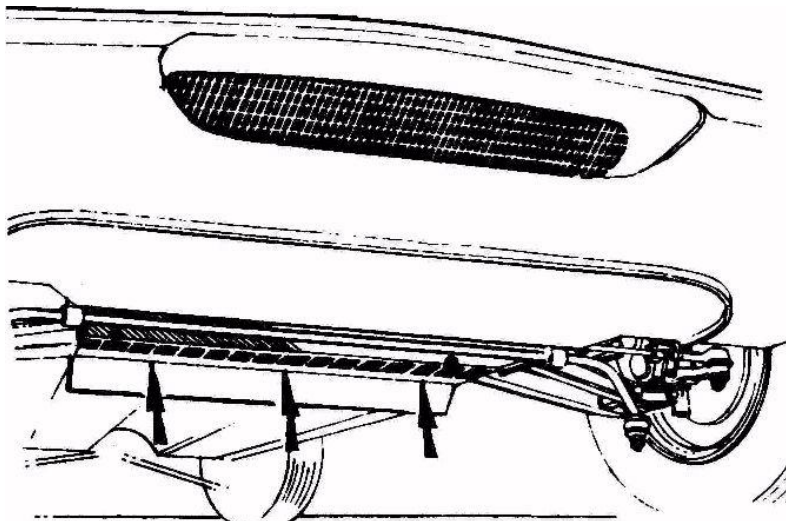

Fig. 6 - Chassis Stand Position.
Raise the front of the vehicle after applying the handbrake and chocking the rear wheels front and rear. Support the front of the vehicle by placing a trestle or stands beneath the chassis cross member, immediately behind the chassis closing plate in the position indicated in Fig.6. Remove the front wheels. Access to the steering rack and coupling is obtained from within the front luggage compartment.
7. Screw the locknut on to the end of the rack so that its position corresponds with dimensions 3 + 4 + 5 + 3 on Fig. 6, i.e., 24.42 in. (62.03 cm) between inner locknut faces.